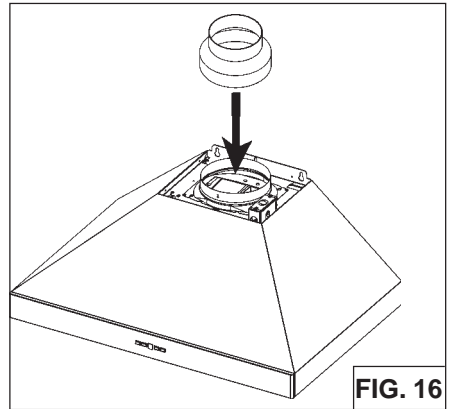

FIG. 16
6. Secure upper flue to flue mounting bracket with (2) 3.9 x 6mm screws (Fig.16).
1. Attach the 6"-to-8" adapter to blower discharge and tape joint with aluminum duct tape (Fig.16).